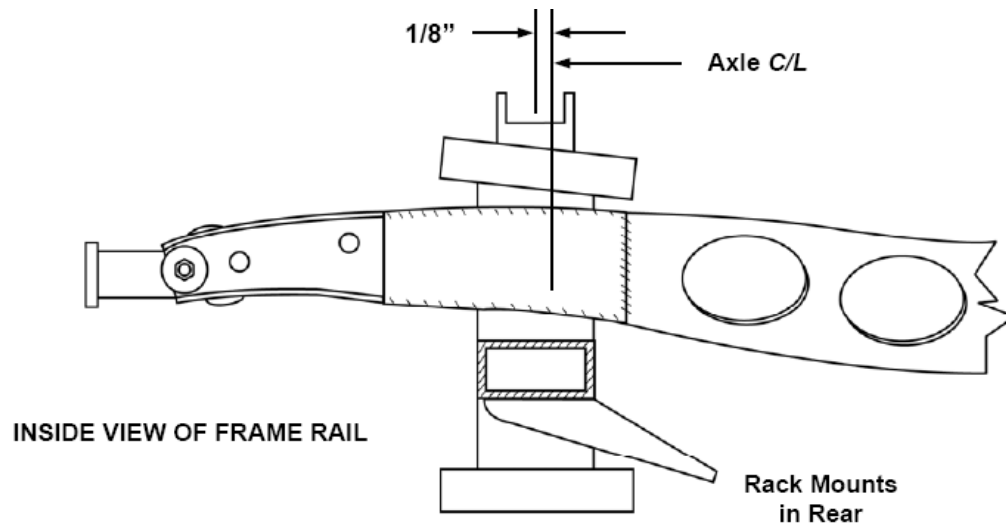

Figure 2- Crossmember Fitment
5. Trial fit the new crossmember onto the rails. It should be located with its centerline 1/8" forward of the marked axle centerline. See **Figure 2**. The caster setting will bring the spindle pin back in line. During boxing, the rails may have a tendency to bow outward slightly if they were clamped ahead of the axle centerline. Pull the rails in to fit the crossmember up onto the rails. It should be seated flat against the bottom of the frame rails. Clamp in place, double check your measurements, making sure the crossmember is squared to the frame, then weld in place. Weld all around, top, sides and bottom. This crossmember keeps the front frame rails from twisting and flexing, so good strong welds are required.